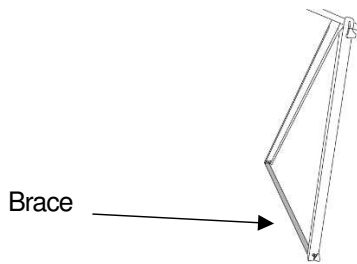

Fig. 4 Bipod
4. Connect the brace with the other end of each leg using two screws with a built-in knob to stabilize the bipod (see Fig. 4).